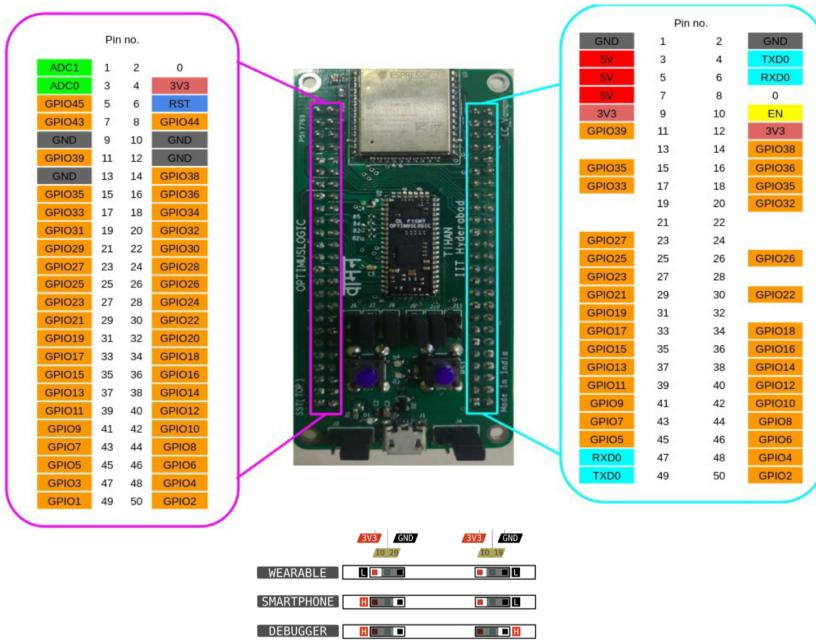

Figure 1.2: Vaman pins
1.1.1.3. The Vaman pin diagram is available in Figure 1.2.
1.2.2.3. The Vaman pin diagram is available in Figure 1.2.